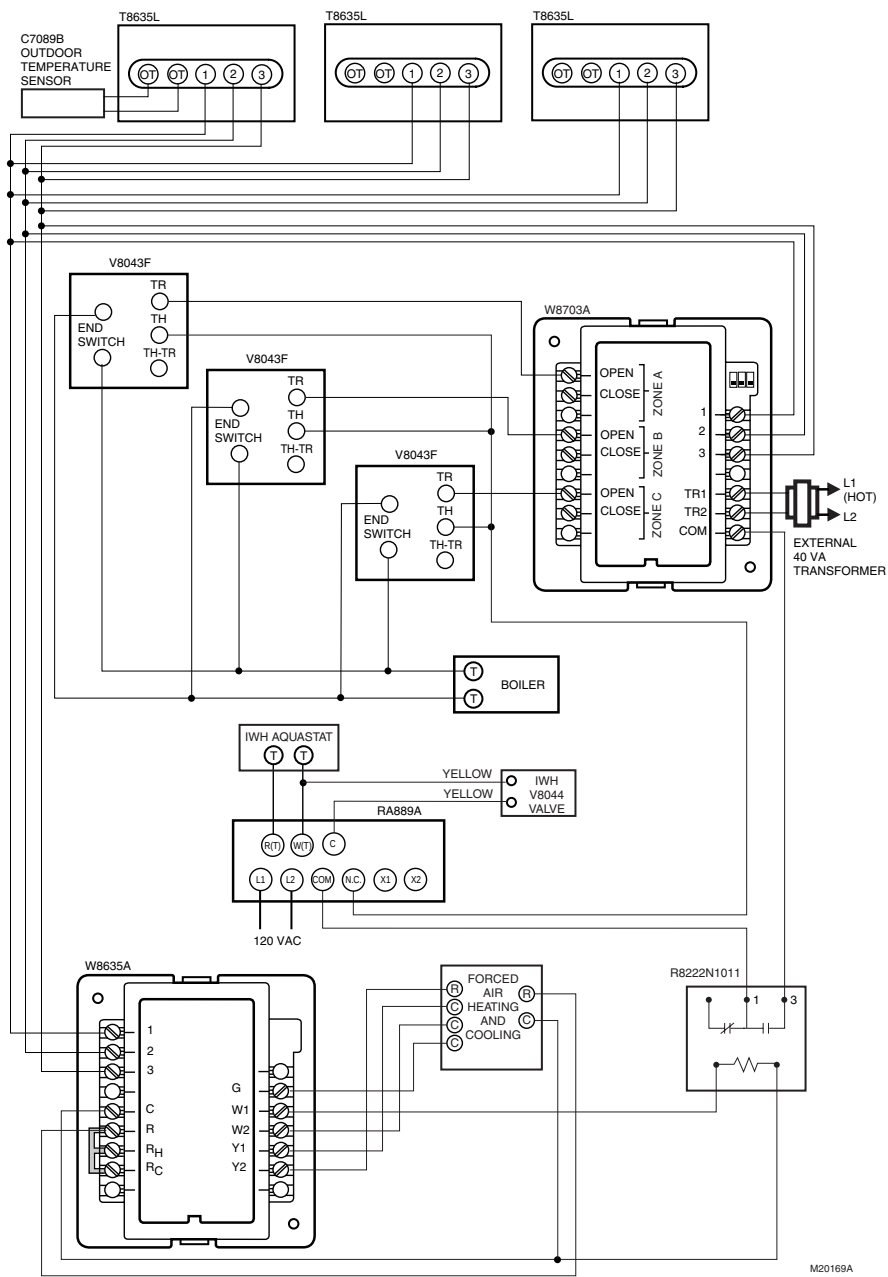
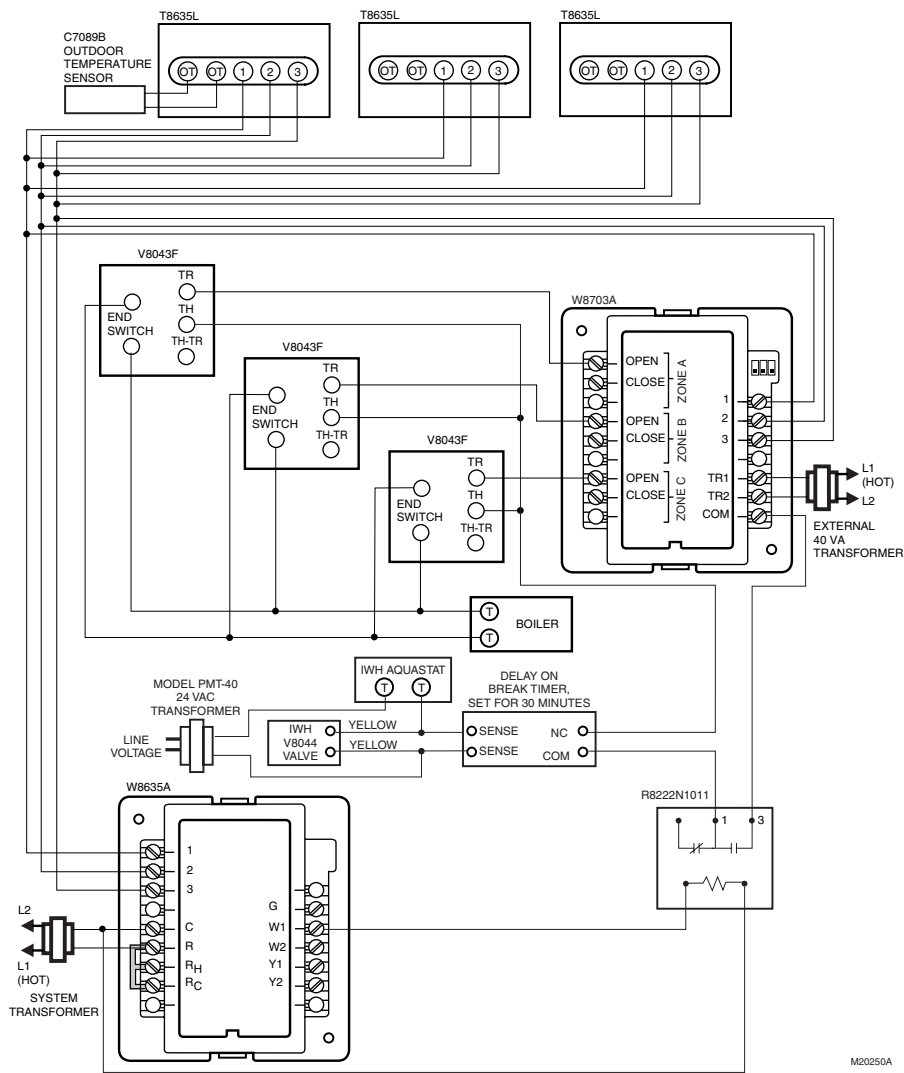

Fig. 10. Hydronic heat with V8043 zone valves and indirect water heater wiring diagram.
Fig. 11. Hydronic heat with time-out and indirect water heater with no air conditioning wiring diagram.
- See Fig. 10 to wire hydronic heat with V8043 zone valves and an indirect water heater.
- See Fig. 11 to wire hydronic heat with time-out on an indirect water heater.
Fig. 10 shows an isolation relay used to remove power from the room-heating zones valves whenever the IWH Aquastat calls for heat. In addition to powering the isolation relay, the IWH Aquastat also powers the zone valve for the IWH loop.
Fig. 11 shows a method of adding a time-out feature to Fig. 10. This feature prevents the Aquastat from stealing the heat for extended periods.